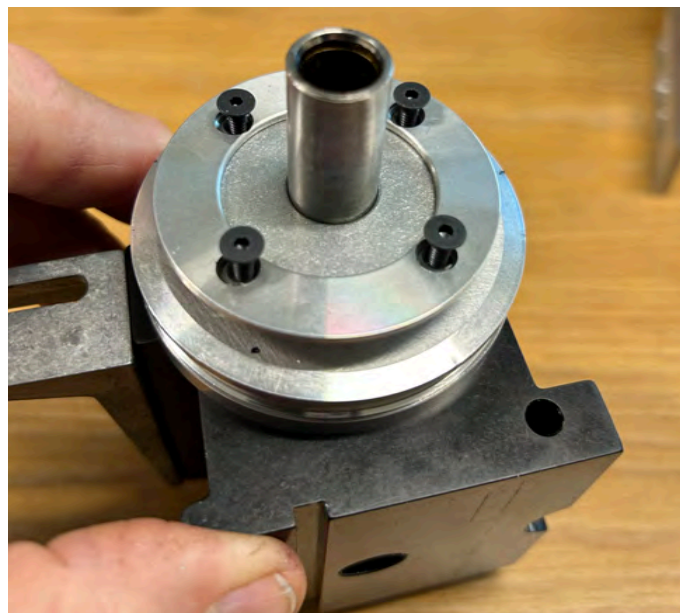

FIGURE 8
E. Insert the (4) 5-40 screws and thread them in partially. Once they are all threaded in, tighten them just enough to hold the three parts in place (see Figure 8).